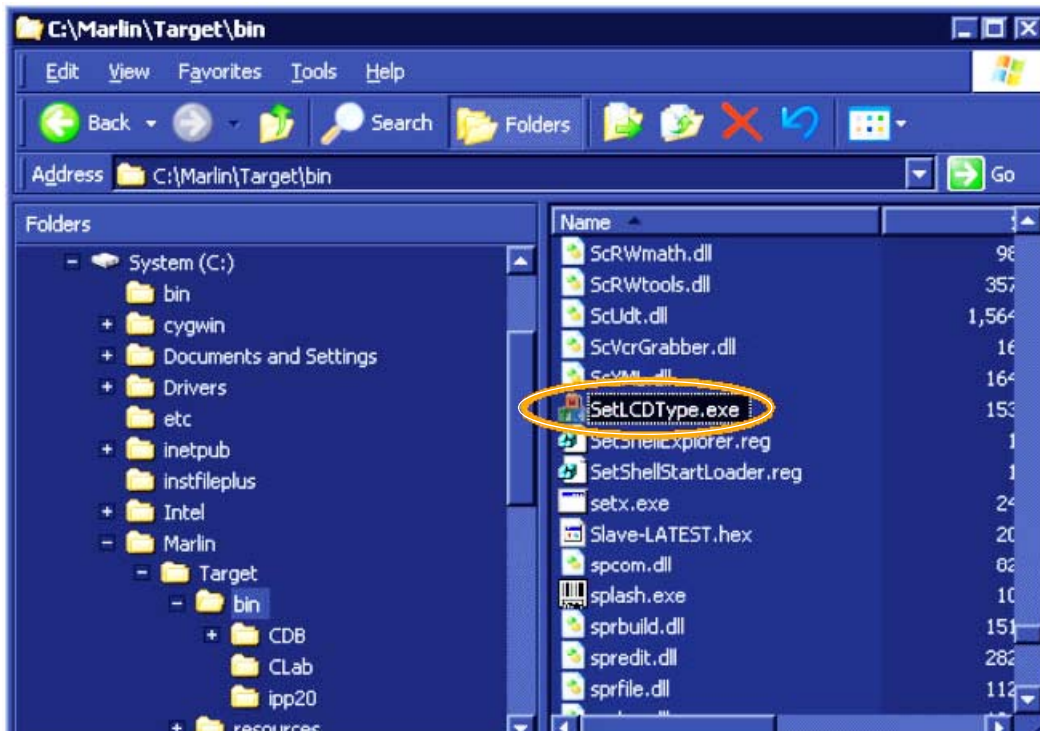

Figure 8-46 Selecting SetLCDType Utility
- 9) From Windows Explorer, go to the directory: **C:\Marlin\Target\bin** (see Figure 8-46 below).